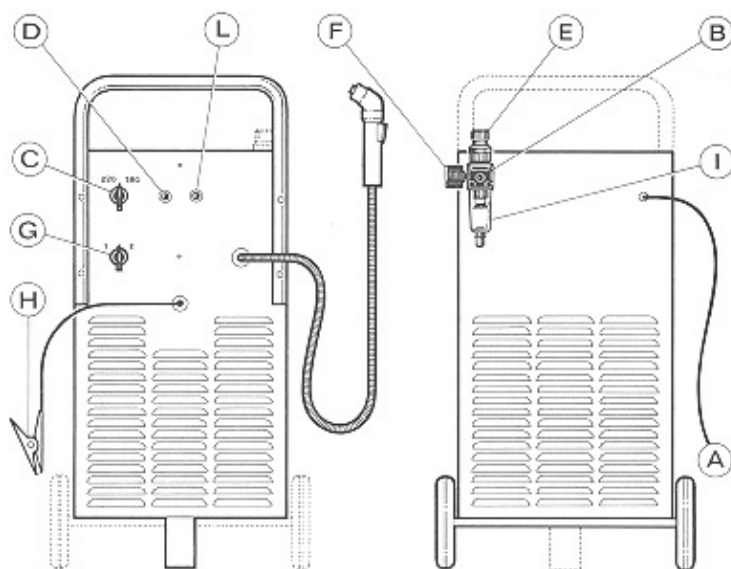

Fig. 2
Pneumatic: located on torch feed to avoid insufficient air pressure and signalled by display light L (fig. 2).
- knob G (Fig. 2) on 1 instead of 2;
- the efficiency of the switch G of Fig. 2;
Although the equipment is provided with an automatic device for the discharge of condensate, which functions whenever air feed is shut off, it is recommended that periodical check that no condensate is in the container I (Fig. 2) of the pressure regulator.